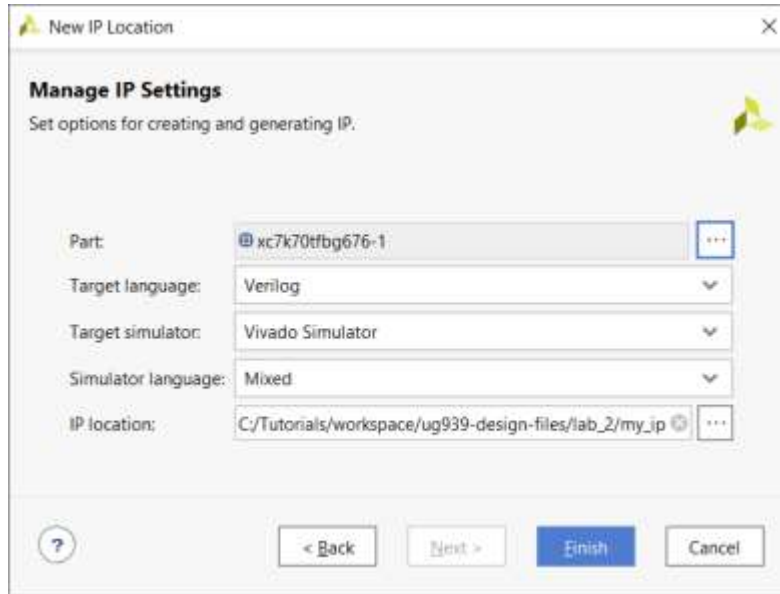

Figure 20: Manage IP Settings
5. Click **Next** to move to the Manage IP Settings dialog box shown in Figure 20 (this shows to what you change the default setting).